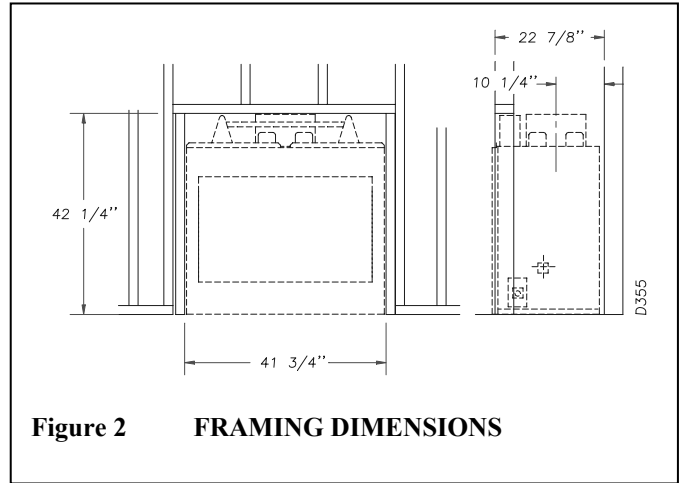

Figure 2 FRAMING DIMENSIONS
- STEP 1: Frame the opening for the fireplace using the dimensions shown in figures 2 & 3.